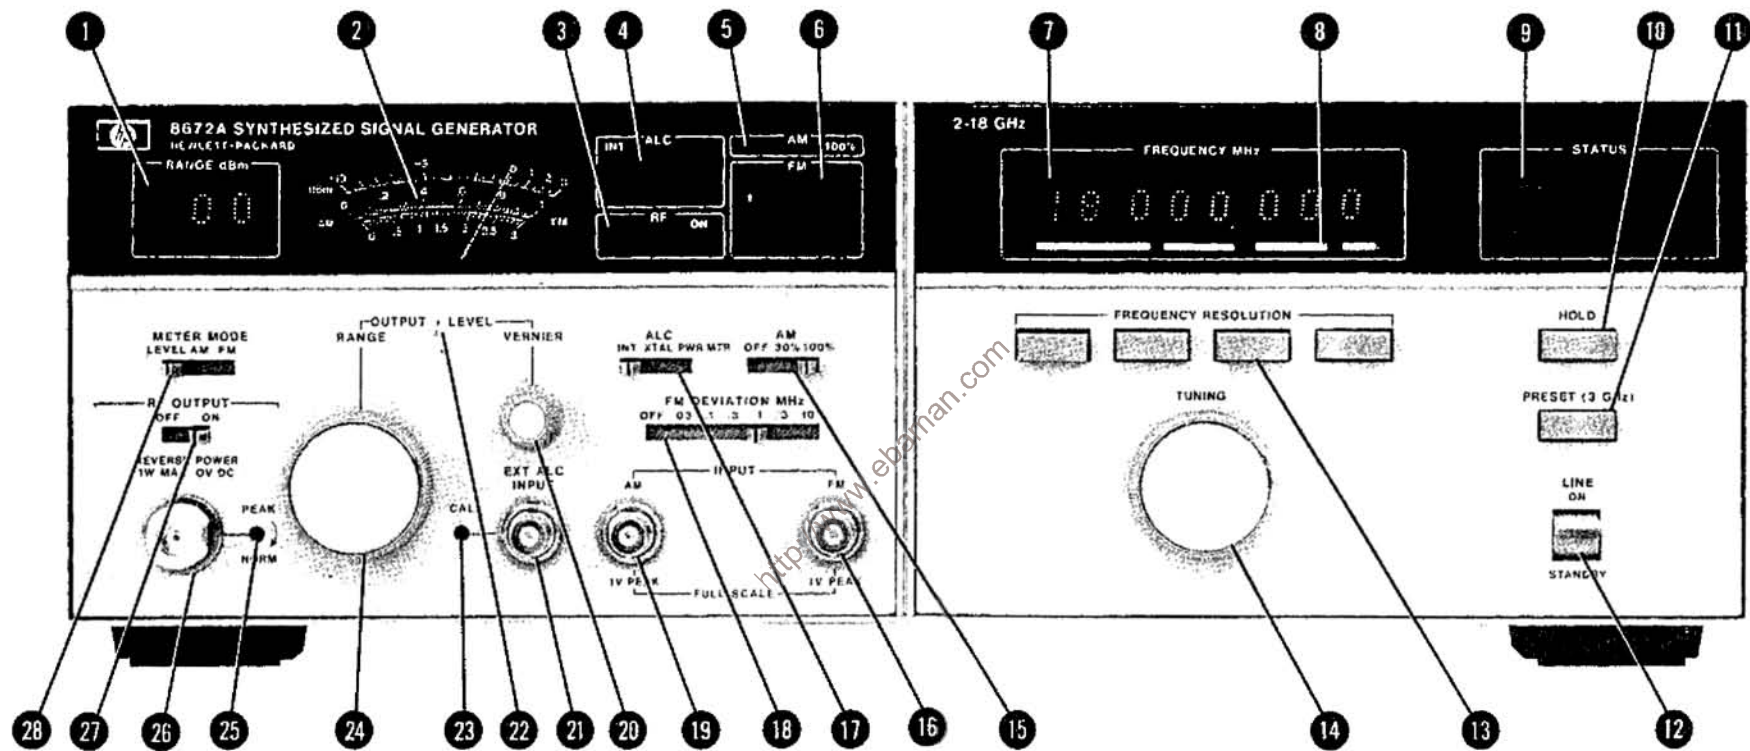
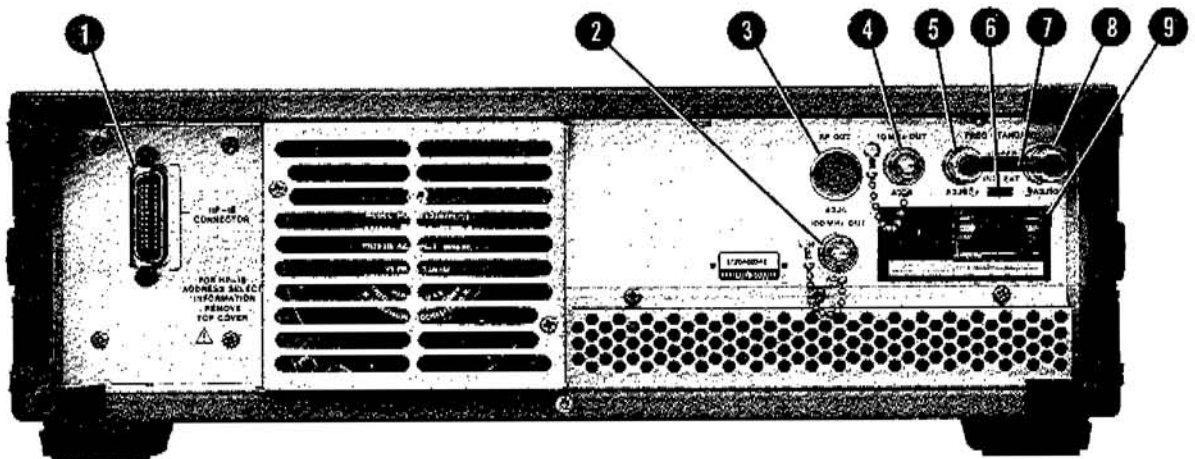

Figure 3-1. Front Panel Connectors, Controls, Switches, and Displays.
Figure 3-2. Rear Panel Connectors, Switches, and Displays
3-5. The front and rear panel features of the Synthesizer are shown in Figures 3-1 and 3-2 and are described in Tables 3-1 and 3-2. The tables contain detailed descriptions of the controls, connectors, and indicators.
3-7. The only maintenance the operator should normally perform is the replacement of the primary power fuse (F1) located in the Line Power Module Assembly 9 (A3A11) shown in Figure 3-2 and the mechanical zero adjustment 22 of the meter shown in Figure 3-1. For instructions on how to change the fuse, refer to Section II, Line Voltage Selection.
3-9. To mechanically zero the front panel meter 2 (see Figure 3-1), set the LINE switch 12 to the STANDBY position and place the Synthesizer in its normal operating position. Turn the mechanical zeroing adjustment clockwise to move the needle up scale or counter-clockwise to move the needle down scale. The zero point is located at the left end of the 0-1 or the 0-3 scales. DO NOT zero on the left end of the top dB scale at -10 as this is not the proper zeroing point.
- INTERNAL REF OFF:** when lit, indicates when the rear panel INT-EXT switch **27** (see Figure 3-2) is in the EXT position.
- PRESET key (3 GHz):** sets frequency to 3 GHz and extinguishes the Frequency Resolution Light Bars **8**.
- 1 **HP-IB CONNECTOR:** connects the Synthesizer to the Hewlett-Packard Interface Bus for remote operation. When in remote operation, the STATUS Block (see Figure 3-1) 9 REMOTE annunciator illuminates.
1. Check that the LINE switch **12** is in STANDBY and remove the power cable from the Line Power Module **9** (see Figure 3-2).
2. Check that Line Power Module **9** (see Figure 3-2) is set to the nominal line voltage to be used and that the fuse is the correct value and type.
1. On the rear panel (see Figure 3-2), remove Jumper 7 (A3W3) from the FREQ STANDARD EXT connector 8 (A3J10), and set the FREQ STANDARD INT/EXT switch 6 to EXT.